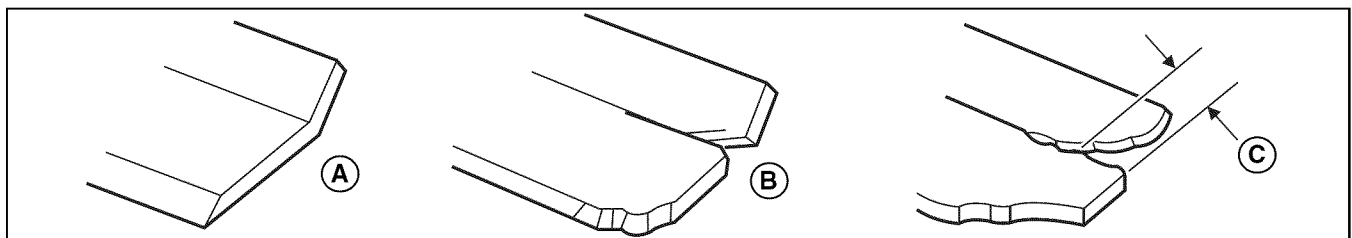

Figure 22. inspecting the Mower Blade Air Lifts
- B.) The air lifts are excessively eroded (B & C, Figure 22) and the notch (C) is .25" (6,35 mm) deep or greater.